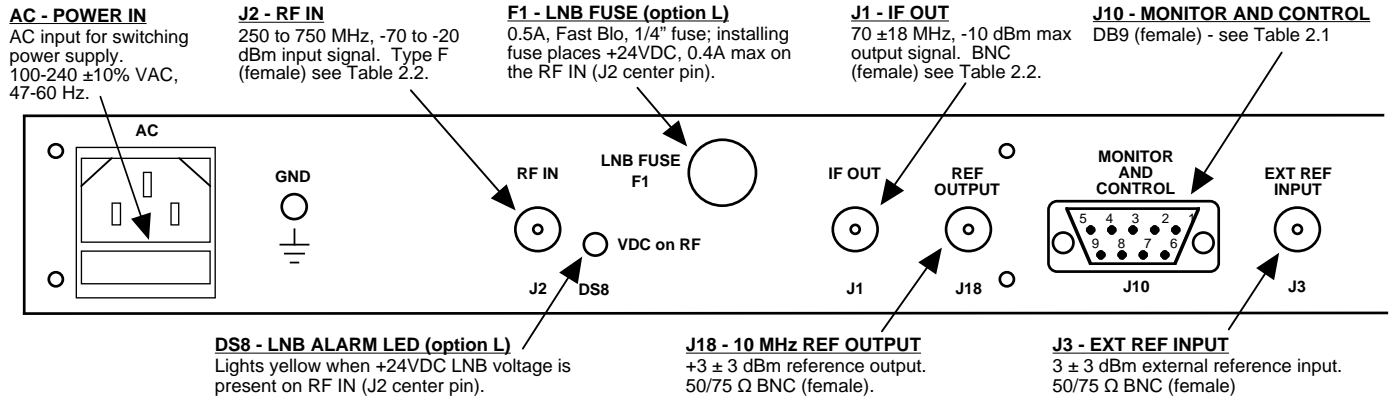

FIGURE 2.2 2016-275 Rear Panel I/Os
Figure 2.2 shows the input and output connectors on the rear panel.
1. Connect a -70 dBm to -20 dBm signal to RF IN, J2 (Figure 2.2)
3. Connect 100-240 \pm 10% VAC, 47 - 63 Hz to AC on the back panel (Figure 2.2).
7. Option L ONLY - To insert LNB +24 VDC on the RF center pin install 0.5A fast blo fuse (included) in F1 and check that DS8 lights yellow (Figure 2.2)